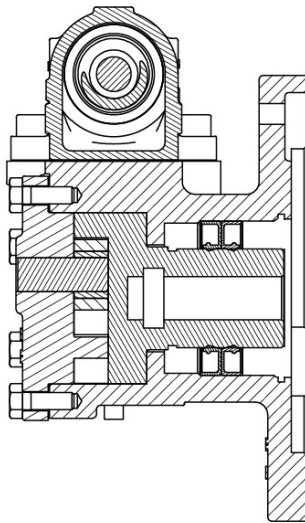

Figure 12-1 VV75G & VV75GG Lip Seal Installation
1. Inspect the casing (05) and lip seals (04) for debris or damage. Clean the casing (05) thoroughly to avoid sealing issues, if necessary, replace damaged parts. It is recommended that lip seals (04) be replaced each time the pump is rebuilt.
3. Insert the lip seals (04) into the casing (05) from the motor end, one at a time with the spring's open end away from each other, reference Figure 12-1. Use an arbor press with a $2\frac{3}{16}$ inch arbor to press, the lip seals (04) until completely inserted. Be careful to recognize when the lip seal (04) hits its resting position. Over pressing will damage the lip seal (04).